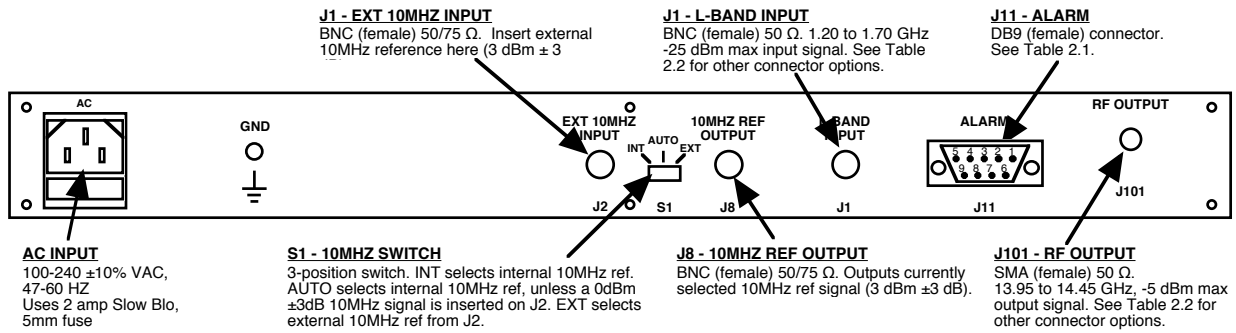

FIGURE 2.1 2116-139 Rear Panel I/O's
Figure 2.1 shows the input and output connectors on the rear panel.
1. Connect a -55 dBm to -35 dBm signal to RF INPUT, J101 (Figure 2.1).
5. Select either INT (for internal 10MHz ref), AUTO (for internal 10MHz ref UNLESS a external 10MHz, 3 dBm signal is connected to J2), or EXT (for external 10MHz, 3 dBm ref that is inserted at J2) on rear panel switch S1 (Figure 2.1).
7. Check that a 10MHz, 3 dBm \pm 3 dB signal is present at the 10MHZ REF OUTPUT (J8) (Figure 2.1).